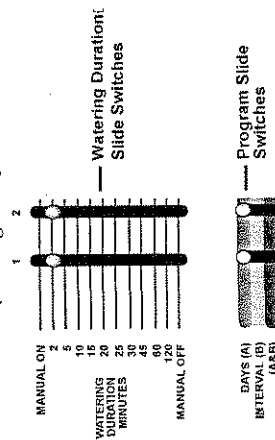

FIGURE 9: Slide Switches
- Set the program slide switch for each station that you want to assign to Program A or B or A and B [See Figure 9].